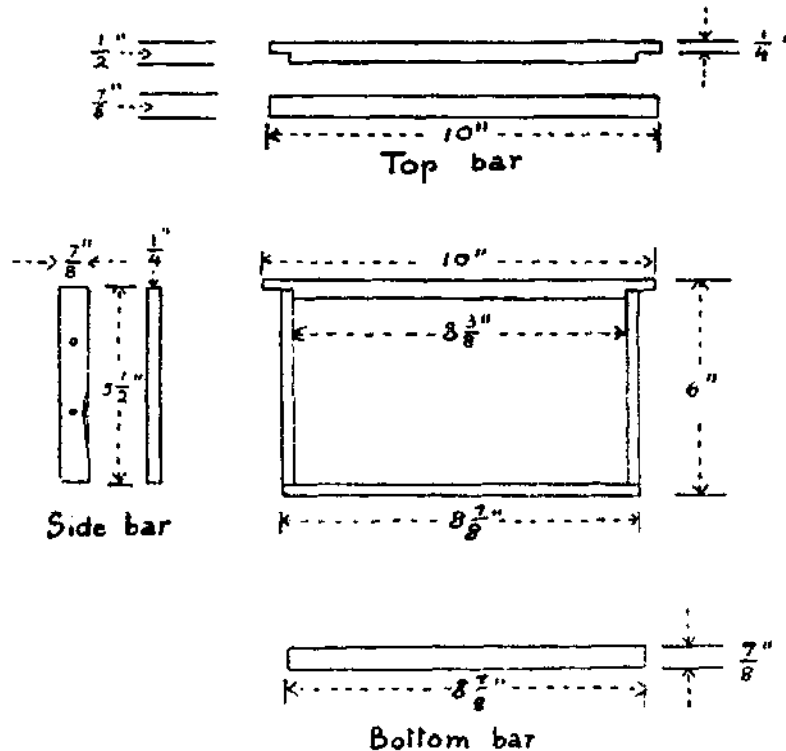

Figure 12. Newton frame
- Side bar: Each is 13.97cm long X 2.24cm wide X 0.64cm thick (5-1/2" X 7/8" X 1/4"). There are two or three holes in each side bar for wiring the frames (see Figure 12). These holes should be drilled before assembling the frame.